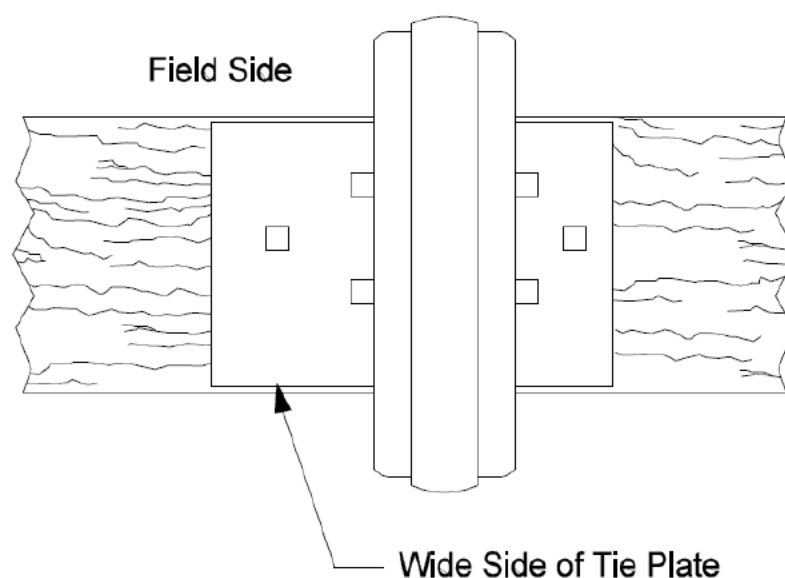

Figure 3.4.2-A
- Proper cant is provided to the rail when the wide side of the plate is on the field side. See Figure 3.4.2-A.